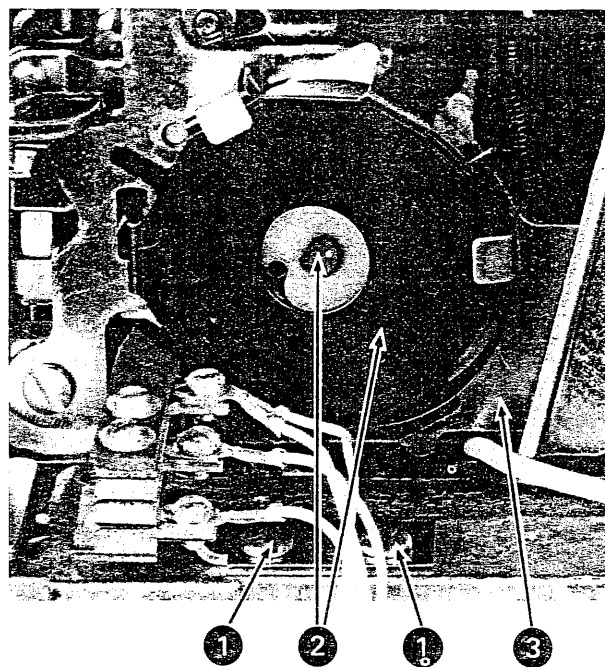

Figure 4-47. Operational-Latch-Bracket Removal (Steps 1-4)
1. Remove the feedback-contact assembly bracket by loosening the two screws (No. 1, Figure 4-47).
2. Remove the mainspring and hub (No. 2, Figure 4-47).
4. Remove the back plate (No. 3, Figure 4-47).